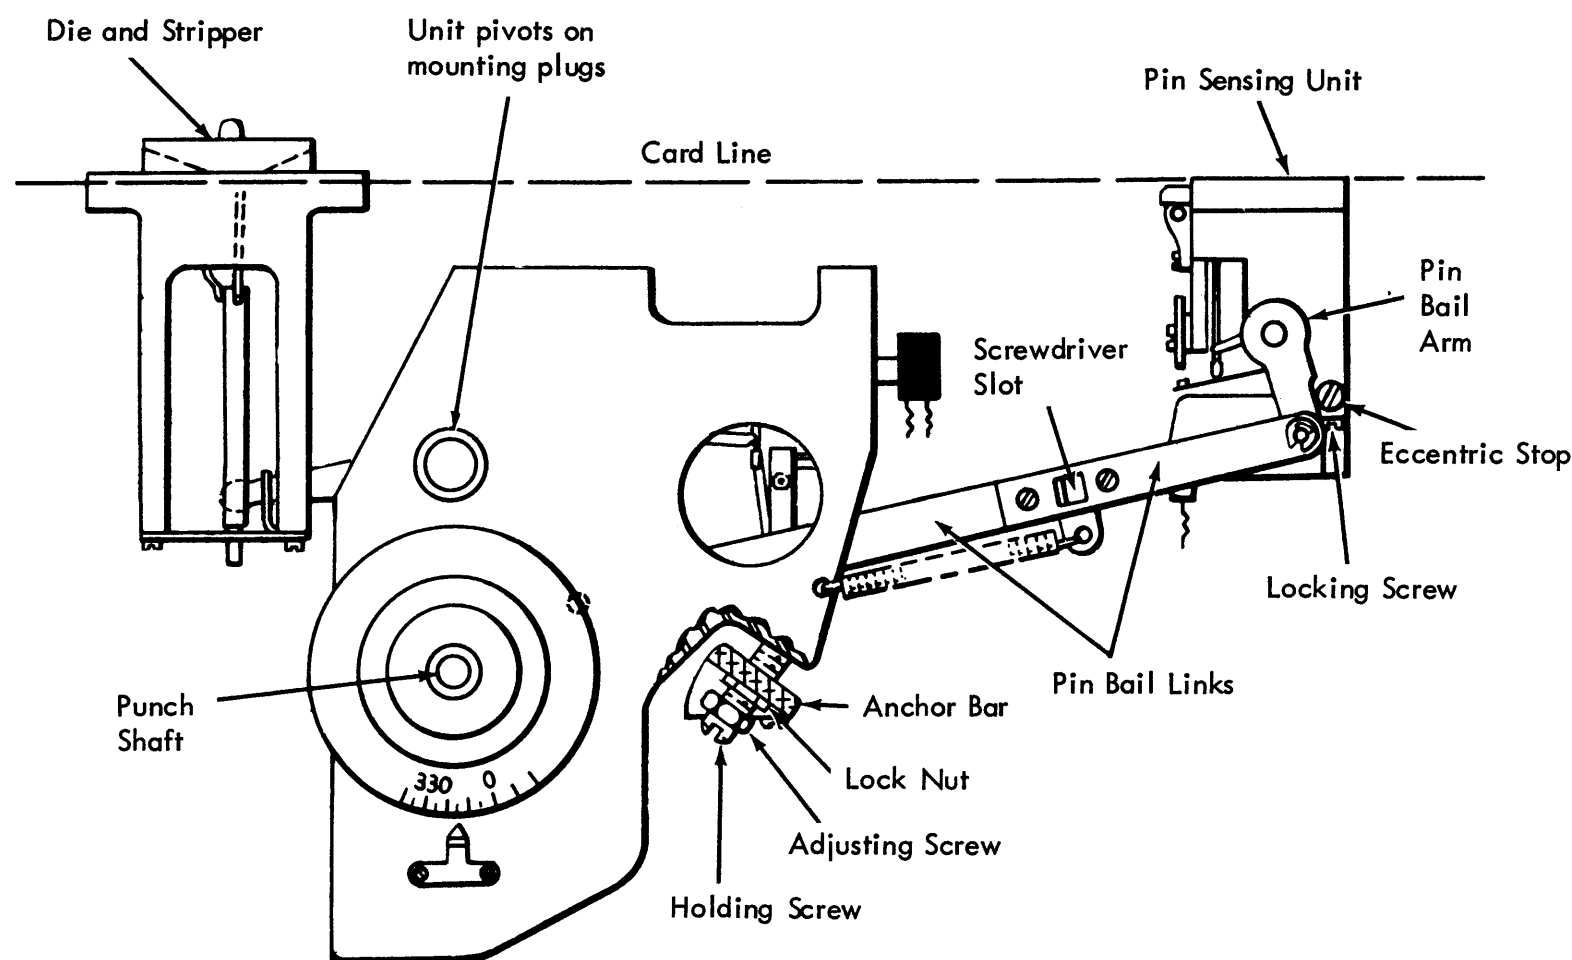

Figure 4-29. Punch Penetration Adjustment
The following adjustment eliminates partially punched holes during the setup process. The heel of the lowest punch must enter 0.015 inch to 0.020 inch into the die. Refer to Figure 4-29.
3. Disconnect pin bail drive link at its coupling screws (Figure 4-29) through hole in rear of punch bed. Do not remove spring from link-to-drive-unit rear frame.